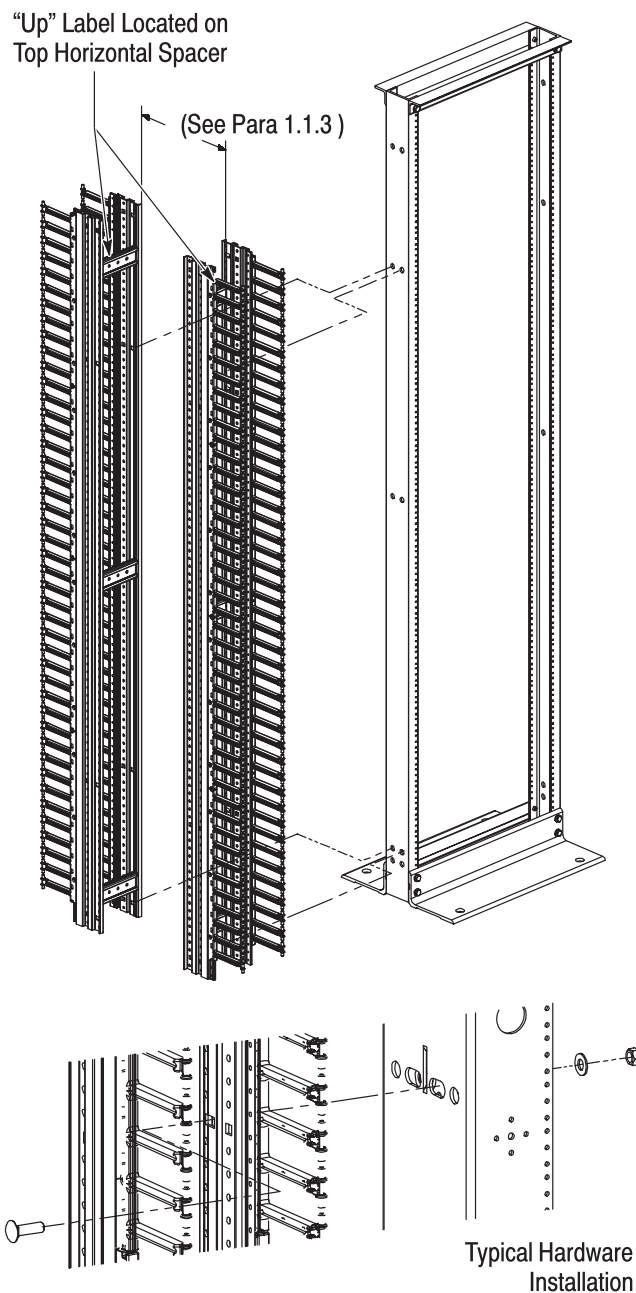

Figure 3
3. Orient the cable manager with orange “up” label pointing up. Attach each cable manager to rack using two of the provided 3/8-in. square neck carriage bolts, flat washer, and hex nuts. See Figure 3.